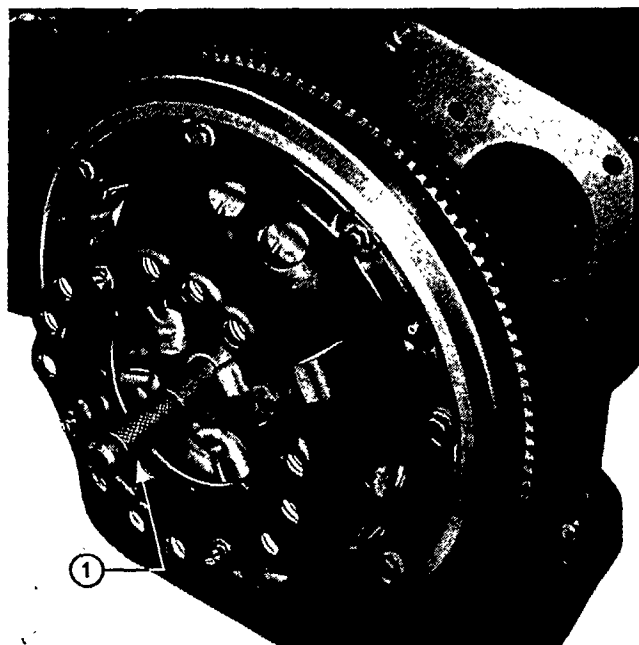

Figure 19
1. Position the clutch disc on the flywheel, centralizing it with a clutch locator tool, Figure 19, – see “SPECIAL TOOLS”, Chapter 4, for clutch disc locator tool numbers and usage.